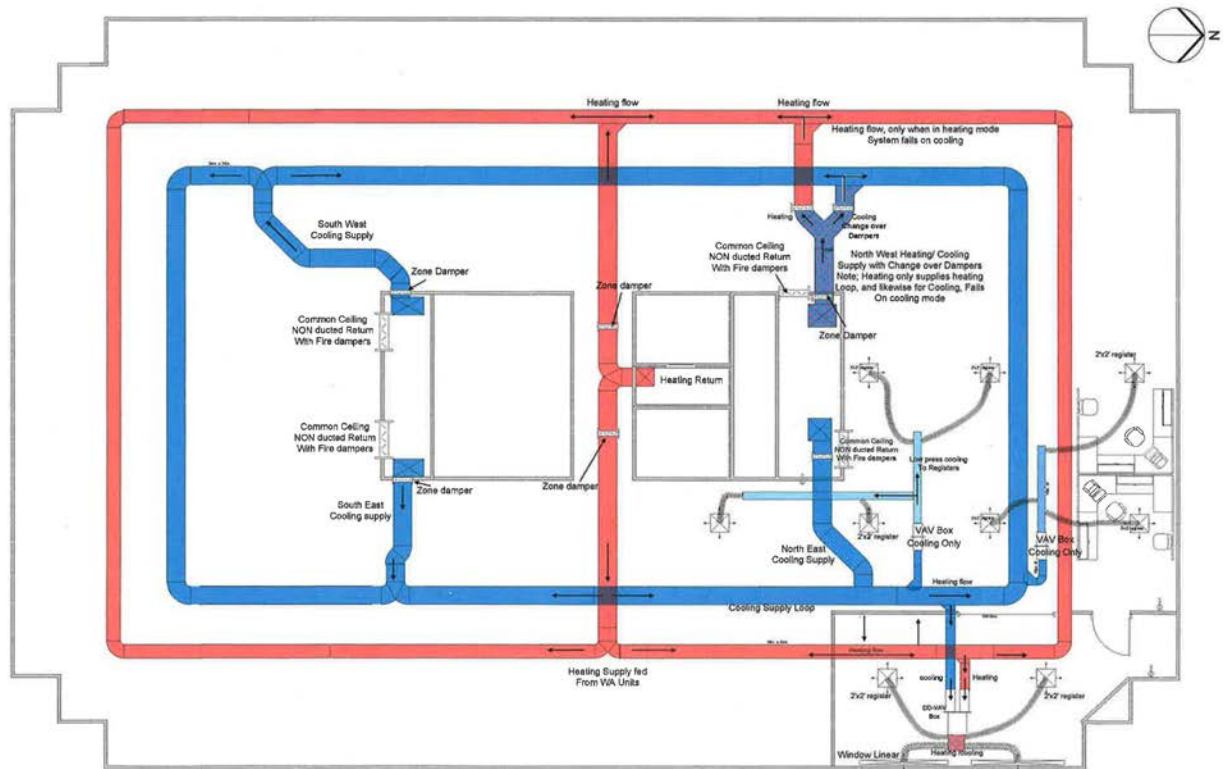

Figure 1
3.4 – Figures 1 and 2 General Floor level and common return air distribution:
Figure 1 is a detailed floor plan of a building, showing the layout of the ventilation system. The plan includes various rooms, corridors, and stairwells. Rooms are labeled with numbers 1 through 10, and their respective CFM (Cubic Feet per Minute) values are provided. The plan also shows the locations of fans, ducts, and other ventilation components. The layout is complex, with many rooms and corridors, and the ventilation system is designed to provide adequate airflow throughout the building.